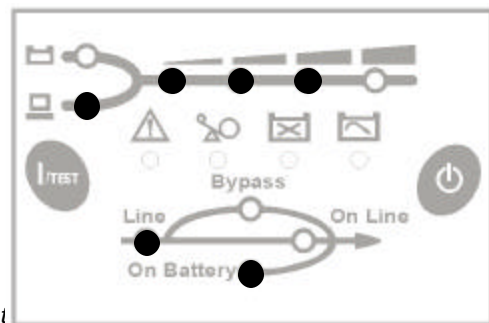

Fig. 3.5 UPS self test
Press the 'I/TEST' button (1) when the UPS is in 'ON LINE' mode. The UPS will shift to 'ON BATTERY' mode and automatically perform a self-test for about 10 seconds (as in fig. 3.5). The self-test function will check the condition of the battery. After self-test is finished and test is O.K, the UPS will return to 'ON LINE' mode.